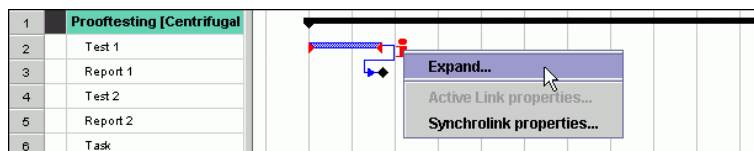

Figure 74: Expanding a Synchrolink
1. Select the relevant activity and choose the menu command *Links* → *Expand*. In the Java user interface there is a simpler option: Double-click on the "i" associated with the bar or choose *Expand* in the context menu of the "i"(Figure 74).